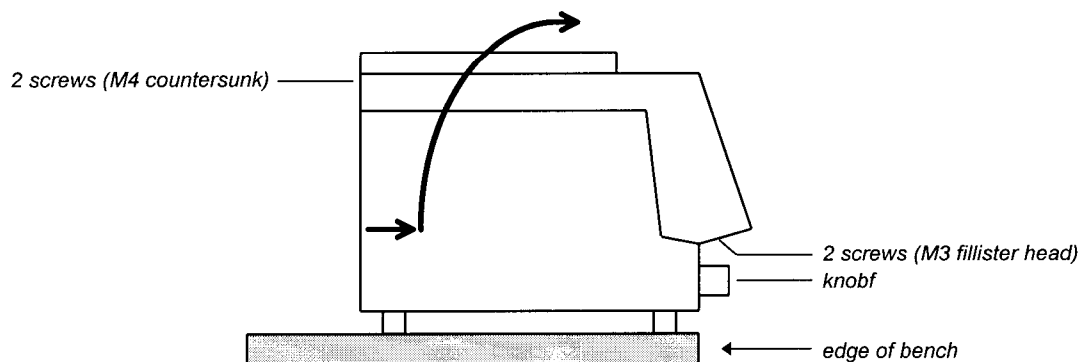

Fig. 4.6
- Place instrument over edge of bench to allow the M3 screws to be removed (Fig. 4-6)